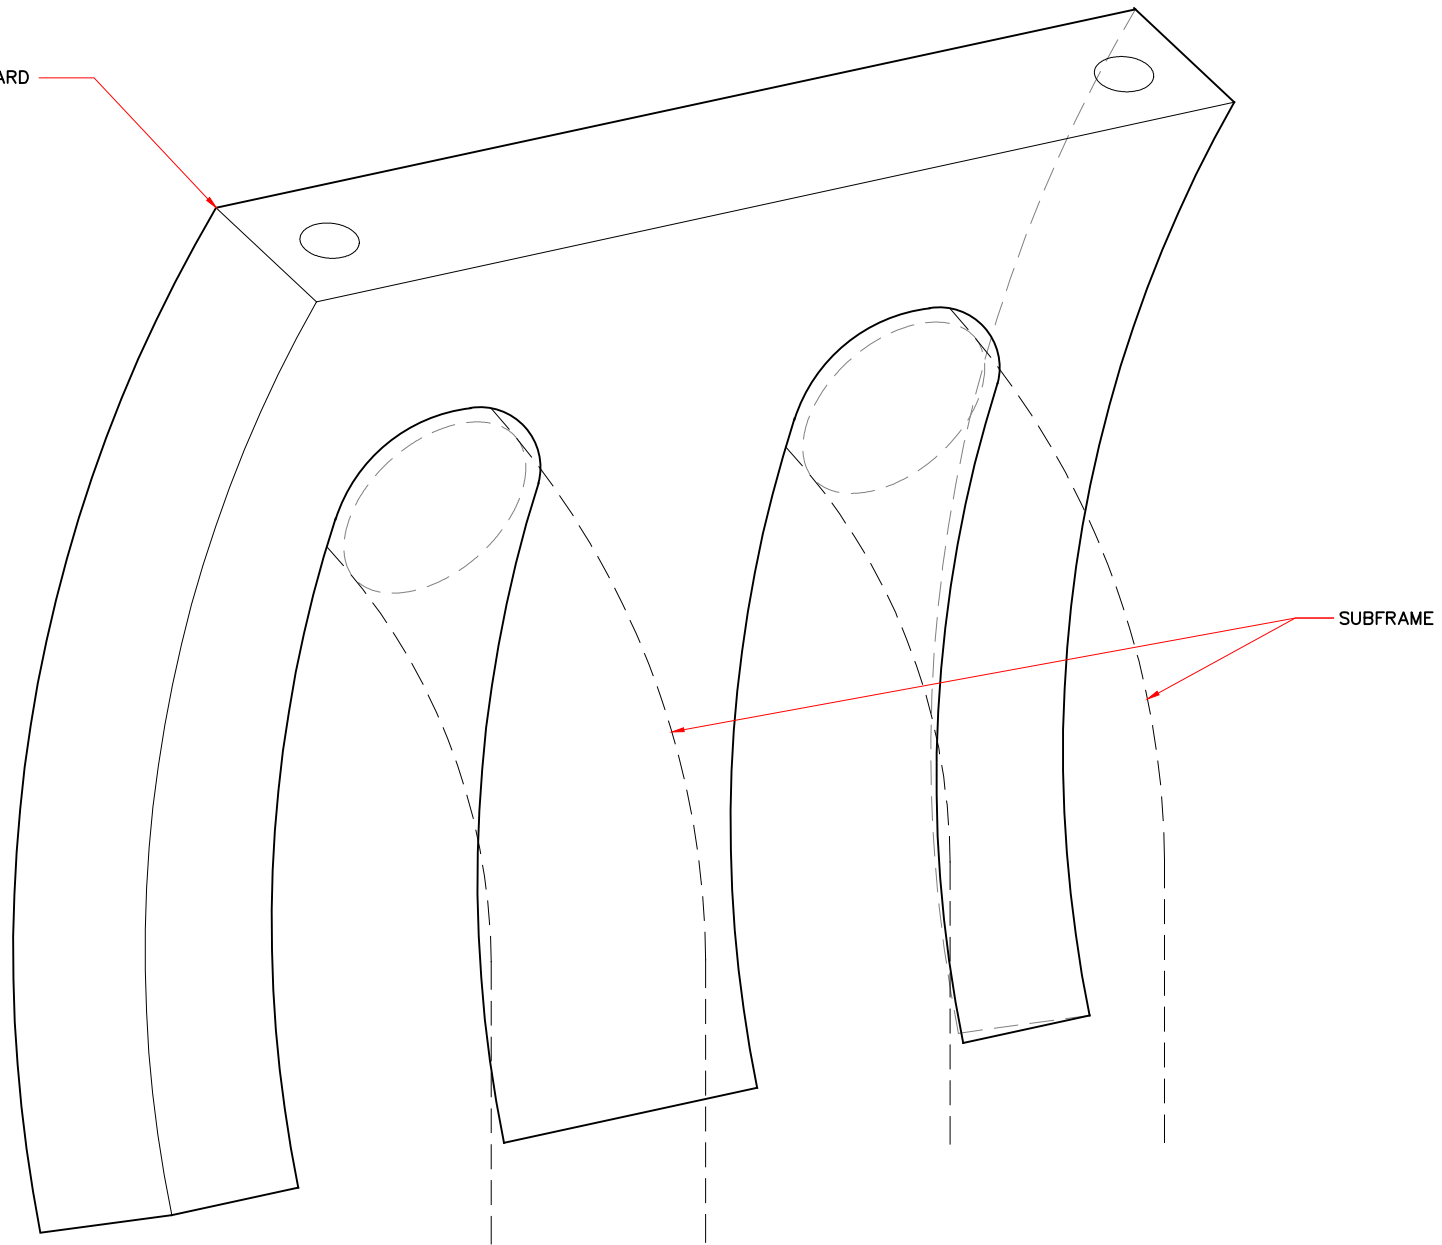

FIG.16
10. Trim the splash guard around the subframe as shown in FIG.16. Reinstall the splash guard.